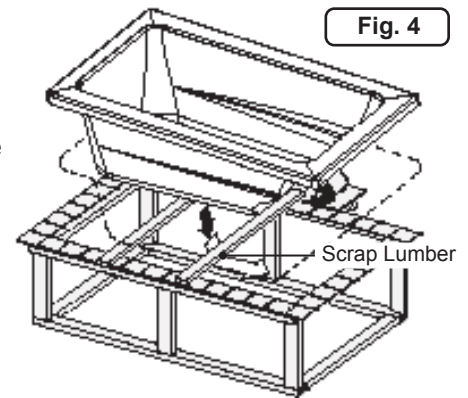

Fig. 4
3. Place a piece of scrap lumber on each of the ends of the cutout – this will be used as a temporary support prior to lowering the bathtub fully into the opening (Figure 4).